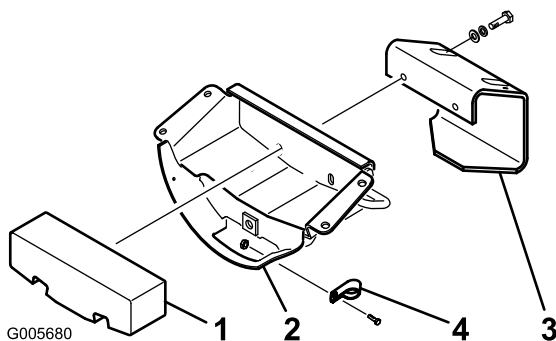

Figure 5
1. Remove 2 capscrews (1/2 x 3/4 inch), lock washers, and flat washers securing rear weight to axle support (Figure 5).